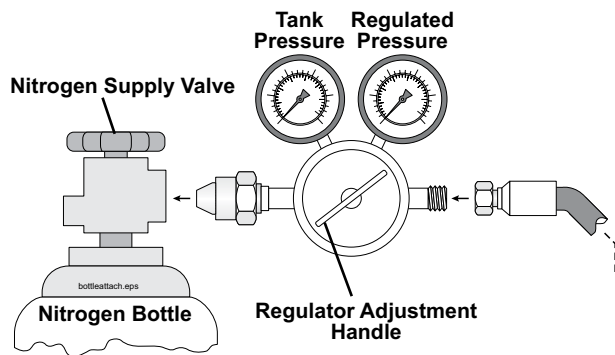

Figure 35
8. Be sure that the nitrogen bottle supply valve is firmly closed. Attach the high-pressure regulator to the nitrogen bottle, then attach the hose to the high-pressure regulator. Finally, attach the other end of the hose to the charge valve stem on the charge valve assembly (Figure 35).
9. Do not open the nitrogen bottle supply valve yet. Turn the regulator adjustment handle on the high-pressure regulator (Figure 35) counter clockwise to its minimum setting (closed).
10. Slowly open the nitrogen bottle supply valve (Figure 35). You will get a reading on the tank pressure gauge side of the regulator. If there is enough pressure in the nitrogen bottle to do the job, proceed to the next step.
11. Adjust the regulator adjustment handle clockwise, raising the regulated pressure. The accumulator will begin to fill. Continue filling until the charge valve assembly pressure gauge (Figure 35) reads the desired pressure of 1500 PSI. Close the nitrogen bottle supply valve.